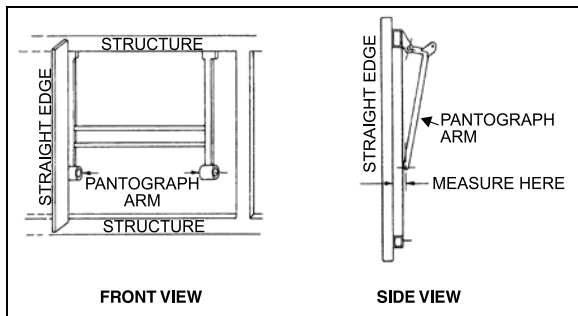
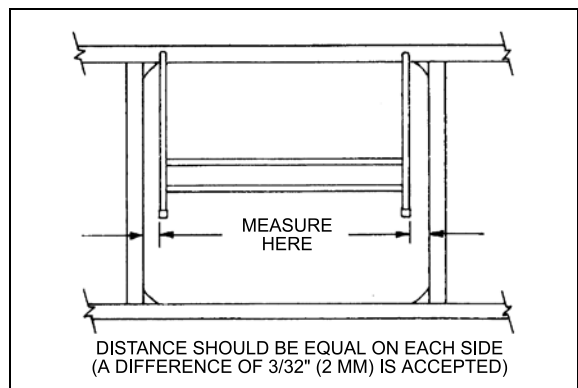

FIGURE 67: PANTOGRAPH DOOR ADJUSTMENT
FIGURE 68: PANTOGRAPH DOOR ADJUSTMENT
Measure distance between a pantograph arm end and a straight edge resting on structure. Repeat procedure for the other arm. The distance on each side should be equal. If not, bend appropriate arm until desired measure is obtained (Figure 67 & Figure 68).
5. When the door is straight, remove the 2x4's and check door operation and fit. A difference of $\frac{3}{32}$ " (2mm) between both sides is accepted (Figure 68).